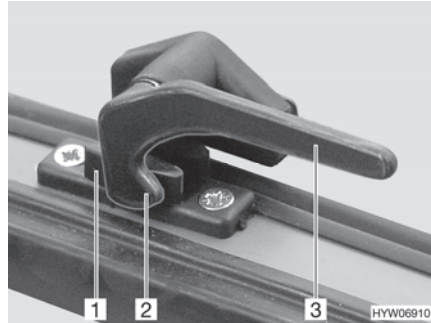

Fig. 36 Catch lever in "closed" position
- Turn the catch lever (Fig. 36,3) a quarter turn towards the centre of the window.
- Turn the catch lever (Fig. 36,3) a quarter turn towards the window frame. The locking catch (Fig. 36,2) is located on the inside of the window catch (Fig. 36,1).
- "Firmly closed" (Fig. 36)